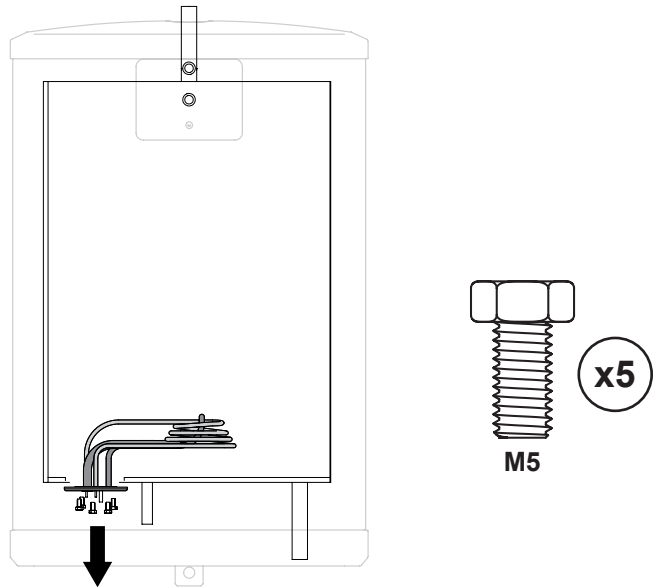

Figure 26: Immersion heater removal step 1
- ▶ Remove fixing bolts as shown in figure 26.